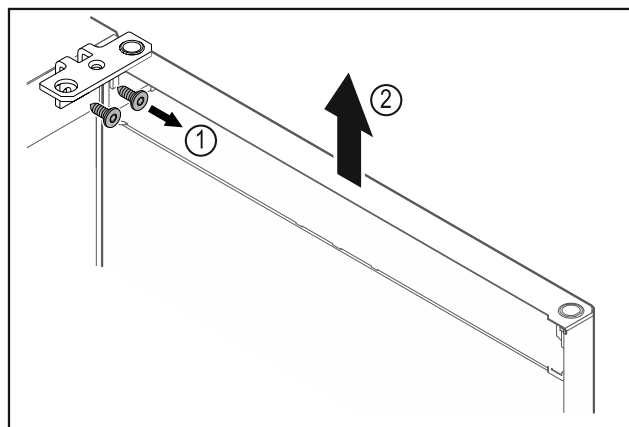

Fig. 9
- Unscrew the hinge Fig. 9 (1).
- Lift the door with the hinge straight up by Fig. 9 (2) roughly 200 mm and take it off.